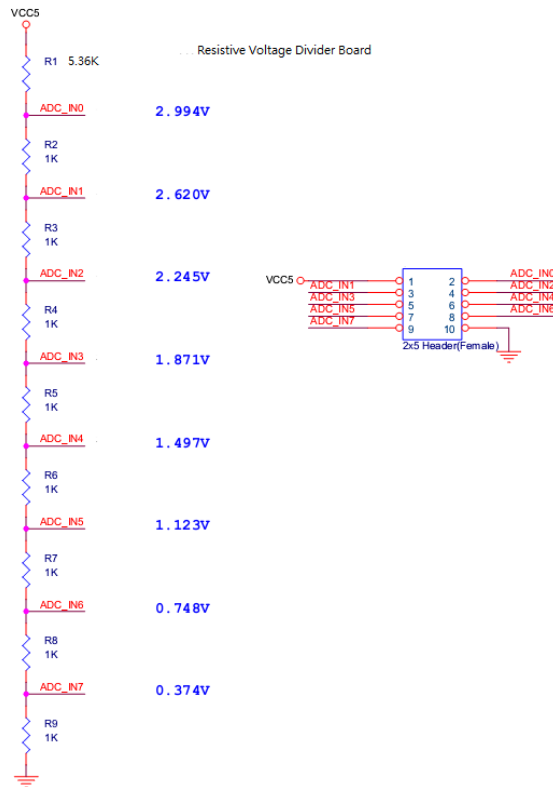

Figure 2-17 The additional voltage divider board is set up for the ADC_RTL demonstration
1. First, prepare an additional voltage divider board, as shown in **Figure 2-17**. Then, plug it into the J5 header on the DE25-Nano.